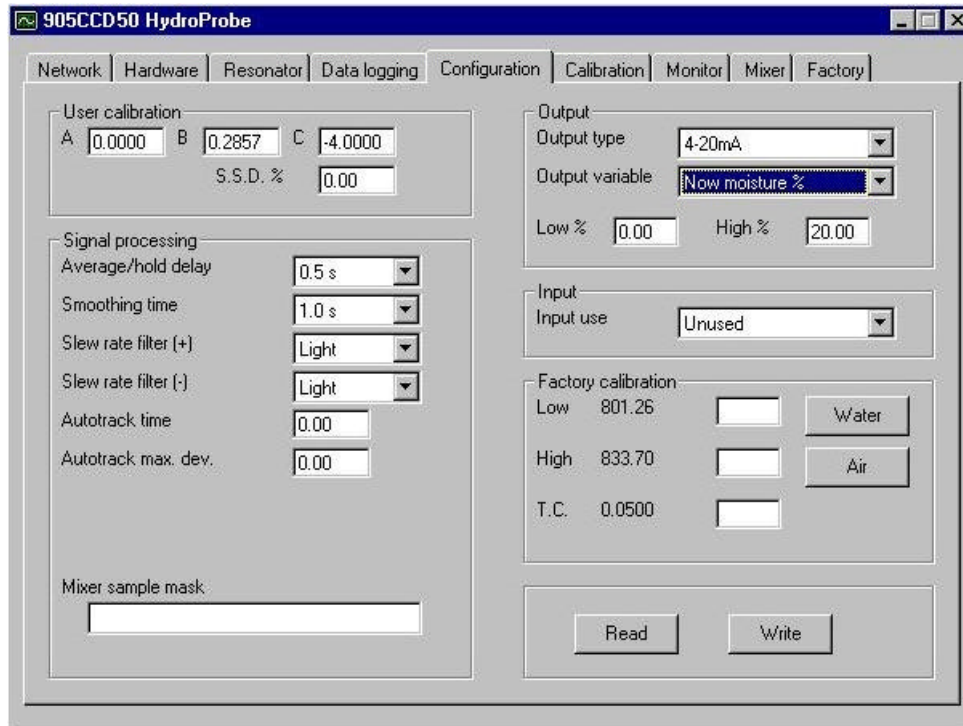

Figure 2: Installation of Default Calibration with Hydrolink Software
- Connect the probe to a PC running the 'Hydrolink' configuration software and select the 'Configuration' tab. (See figure 2 below)
- Press the 'Read' button and ensure that in the User Calibration Box, the value shown for A is 0.2857 and B is – 4.000 as in Figure 2. If the reported values are different from these, you will need to install the Default calibration – See Section III – “How To Install or Restore The Default Calibration” below.
- Select the output type - say 4-20mA - as shown in Figure 2 below. **Note: You can't use the compatibility mode to get an output already converted to moisture**
- Press the 'Write' button at the bottom of the page to write these selections into the HP02's memory. After a couple of seconds a message informing you that the memory has been updated will appear. Click the OK button. The parameters shown in Figure 2 have now have now been permanently stored in the HP02 memory and you will not have to go through this procedure again unless you want to change the settings again later.